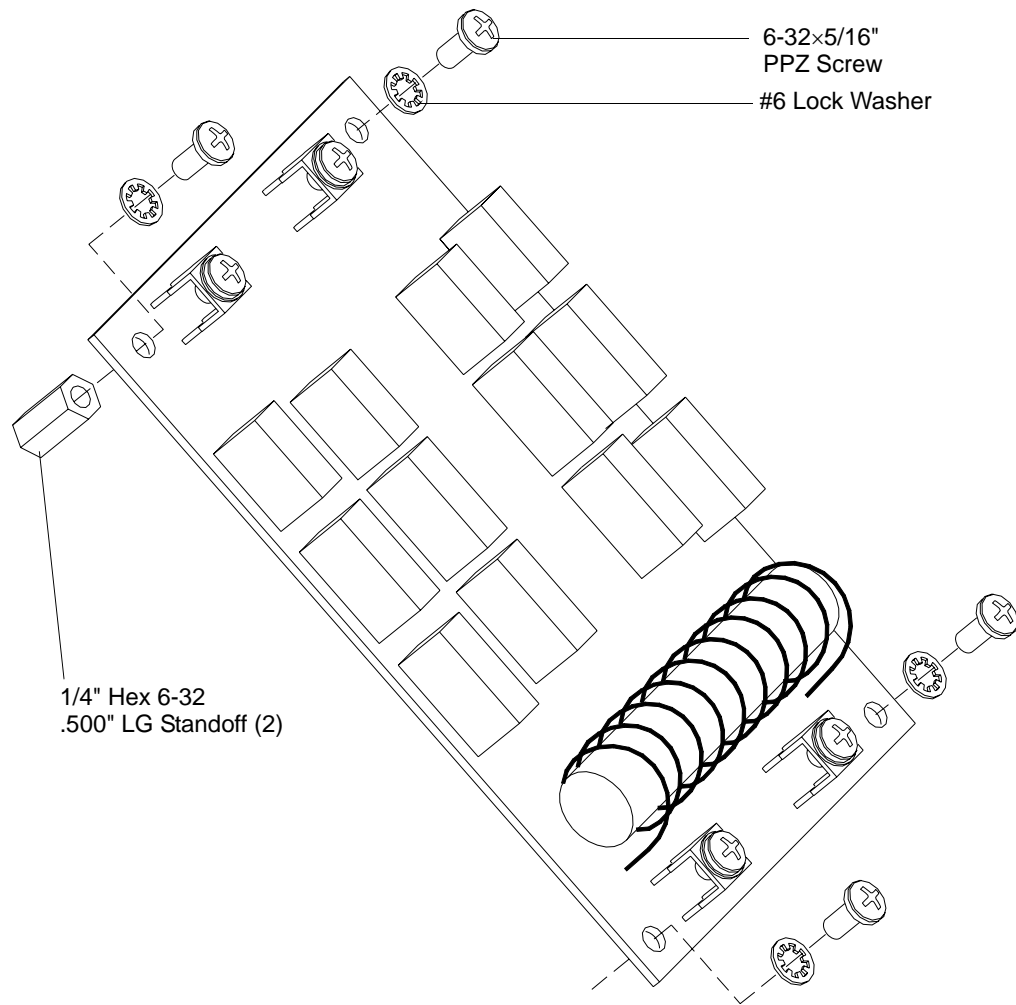

Figure 2-15: Ignitor PCB Standoff Removal
- Step 8. Remove two 1/4" hex standoffs from ignitor PCB by removing one 6-32×5/16" PPZ screw and #6 lock washer. Install in same place on new ignitor PCB. Figure 2-15.